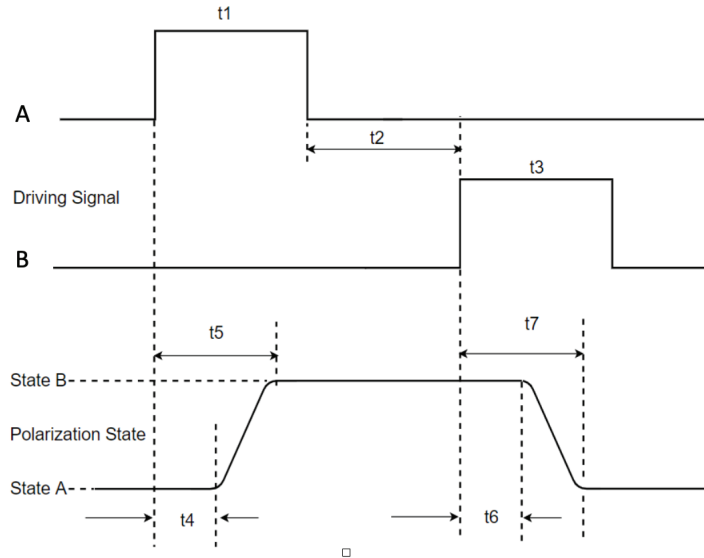

Figure 8 Polarization response to drive signal
In general, the "coast" state (both pins low) is the default drive condition (switch stays in its current state). To switch to the forward rotation state, pin A_IN would be pulled high for at least 50us before returning to the "coast" state. To switch to the reverse rotation state, pin B_IN would be pulled high for at least 50us before returning to the "coast" state. See Fig. 8 for details on switch dynamics.
- Rise/fall time ($t_5 - t_4$), see Figure 8.